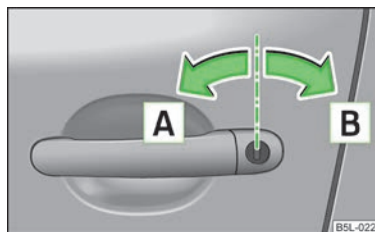

Fig. 11
- Turn the key in the locking cylinder of the driver's door in the direction of travel (unlock position) **A** » Fig. 11.
- Turn the key in the locking cylinder of the driver's door in the opposite direction of travel (lock position) **B** » Fig. 11 on page 28.